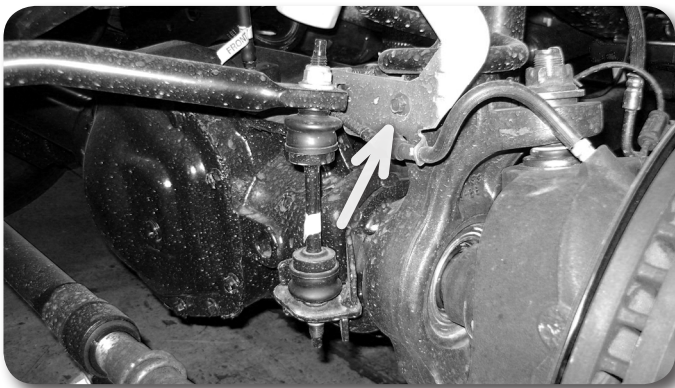

Figure 2
6. Disconnect the front brake line brackets from the axle Figure 2. Save hardware.